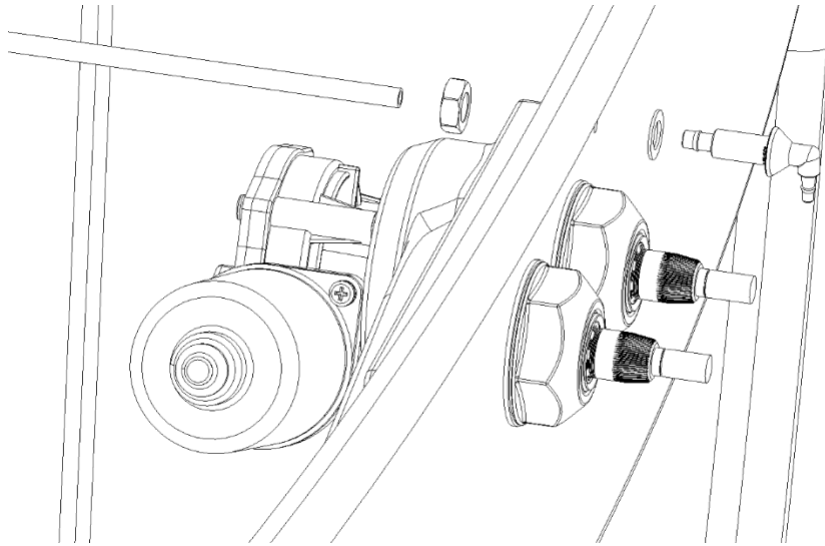

Fig. 3.
10. Install the bulkhead fitting into the drilled hole (see figure 3).
11. Connect the washer hose from the washer fluid bottle to the bulkhead fitting (see figure 3).